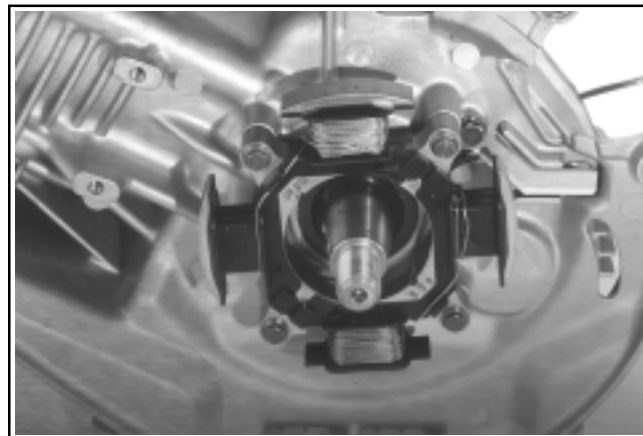

Figure 9-51. Stator and Protective Shield.
1. Remove the mounting screw and protective shield over the stator leads. See Figure 9-51.